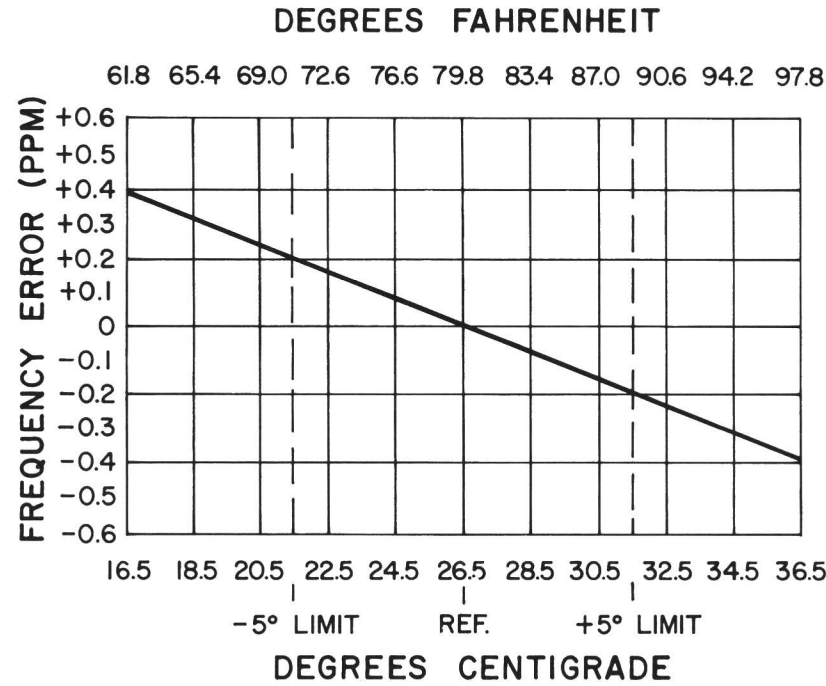

Figure 7 - Frequency Characteristics Vs. Temperature
- B. To hold the setting error to ±0.35 PPM (which is considered reasonable for 2 PPM ICOMs): Maintain unit at 26.5°C (±5°C) and offset the oscillator as a function of actual temperature, by the amount shown in Figure 7.